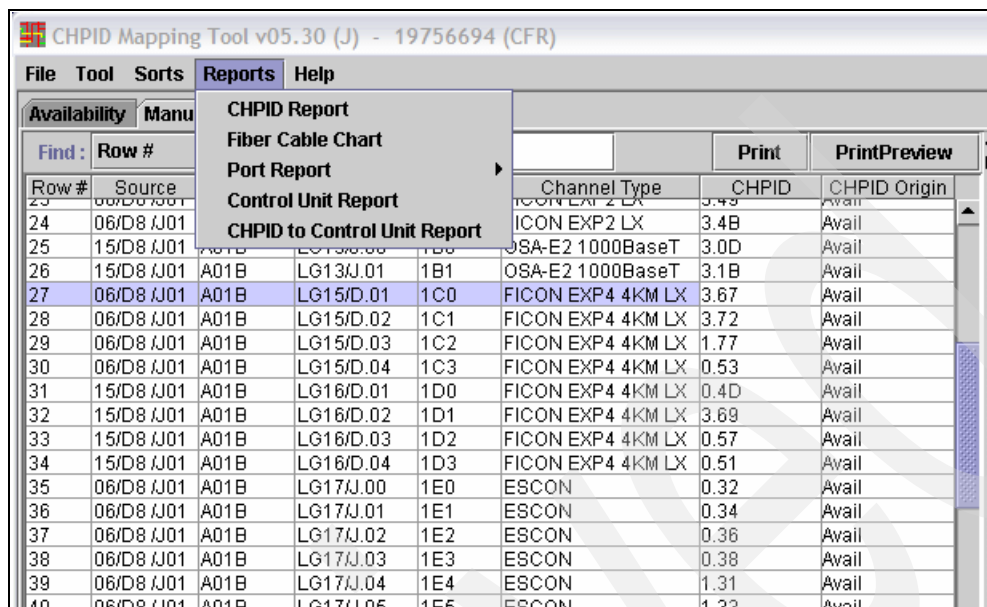

Figure 5-42 CMT - select CHPID Report
1. Click **Reports** → **CHPID Report** (Figure 5-42).